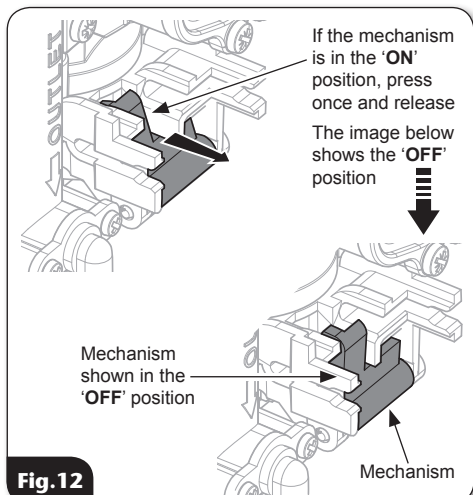

Fig. 12
- Before turning on the mains water supply ensure that the **start/stop** mechanism is in the **off** position (**fig. 12**).
IMPORTANT: The Start/Stop button uses a valve latching mechanism (see fig.12). Some resistance will be felt when operating it. The button should be **pressed firmly** to operate the mechanism.